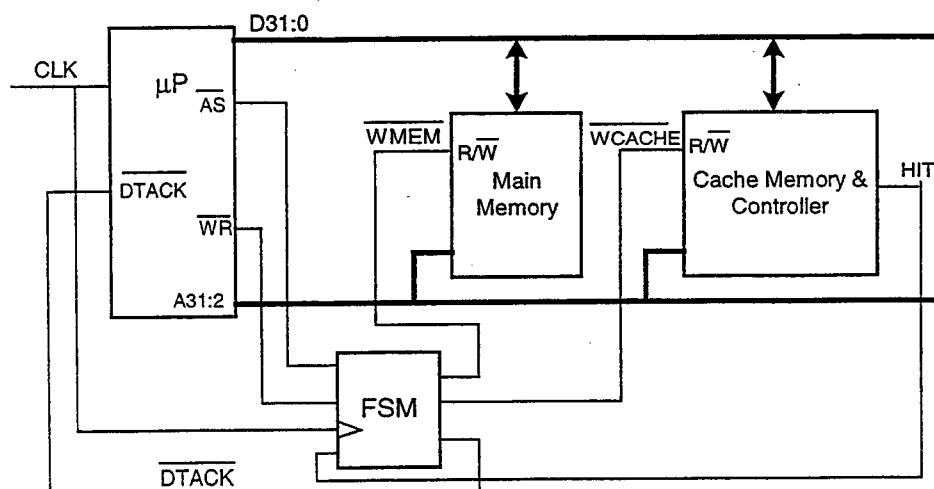
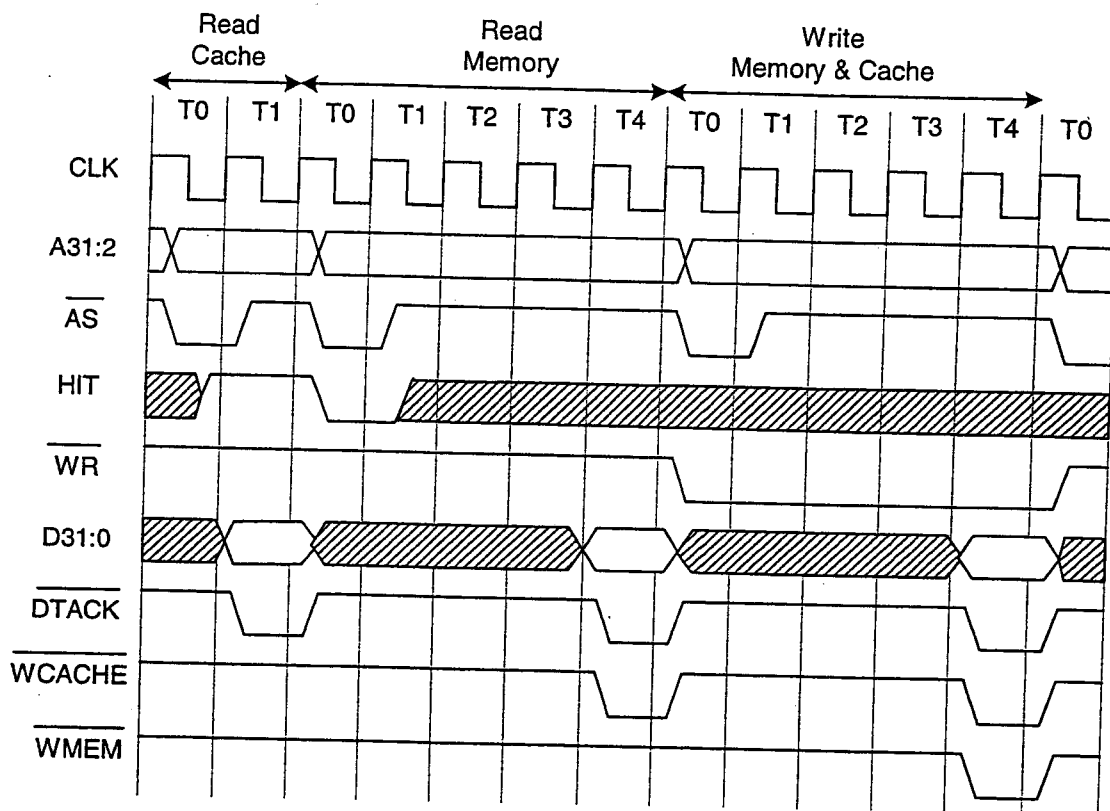

Figure 6.1
Figure 6.2
6. In a 32-bit microprocessor system shown in *Figure 6.1*, a 1K X 32 bit cache memory is used to increase the effective speed of the main memory. The operation of the microprocessor and the memory interface circuit is controlled by the clock signal  $CLK$ . *Figure 6.2* shows the timing diagram during three different types of memory accesses.